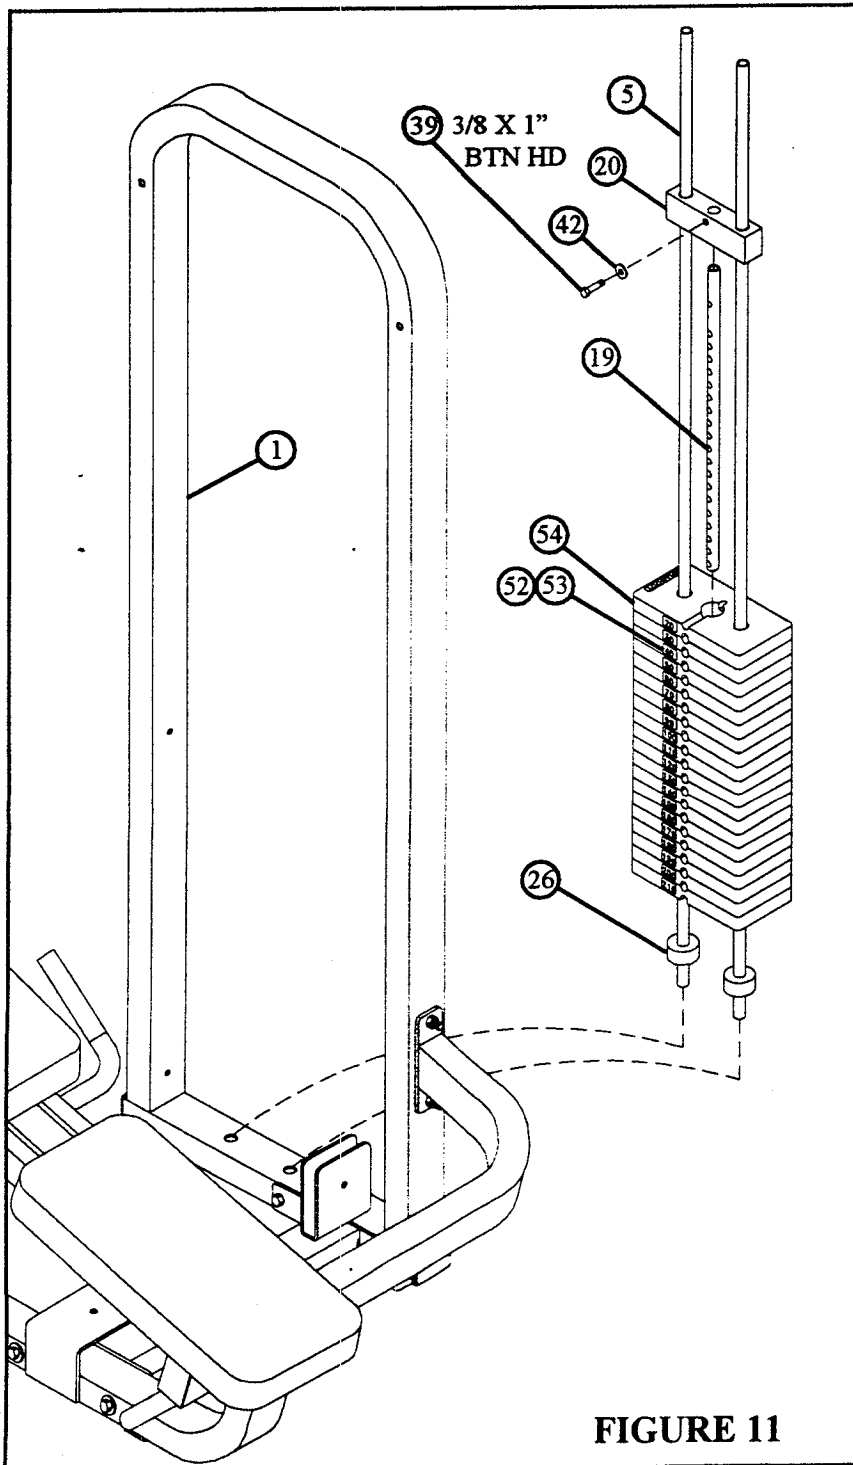

FIGURE 11
- Insert the two GUIDE RODS (5) into the base of the TOWER (1) as shown in FIGURE 11. Lubricate the GUIDE RODS with a silicon or teflon spray that is available at most hardware stores.
- Slide two WEIGHT STACK CUSHIONS (26) down over the GUIDE RODS (5). See FIGURE 11.
- Using **EXTREME CARE** slide twenty WEIGHT PLATES (54) down over the GUIDE RODS (5) with the "PARABODY" side up and the key-hole facing as shown in FIGURE 11.
- **SECURELY** assemble the WEIGHT STACK SHAFT (19) to the HEAD PLATE (20) using one 3/8 X 1" BUTTON HEAD CAP SCREW (39) and one 3/8" LOCK WASHER (42). (Note: The bolt hole in the HEAD PLATE (39) should be on top.)
- Carefully Slide the HEAD PLATE ASSEMBLY down over the GUIDE RODS (5) onto the weight stack as shown in FIGURE 11.
- Apply one set of WEIGHT STACK LABELS - LBS. OR KGS. (52) (53) to each WEIGHT PLATE (54) as shown in FIGURE 11.